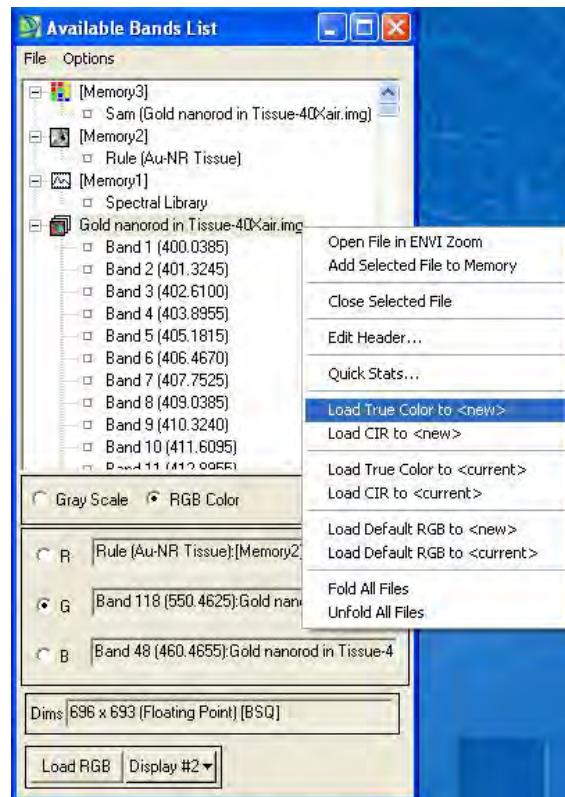

Figure 17. Available Bands List
1. To reload the original image (see Figure 17), scroll through the Available Bands List to find the original image. In this exercise the image name is **Gold Nanorods in Tissue**